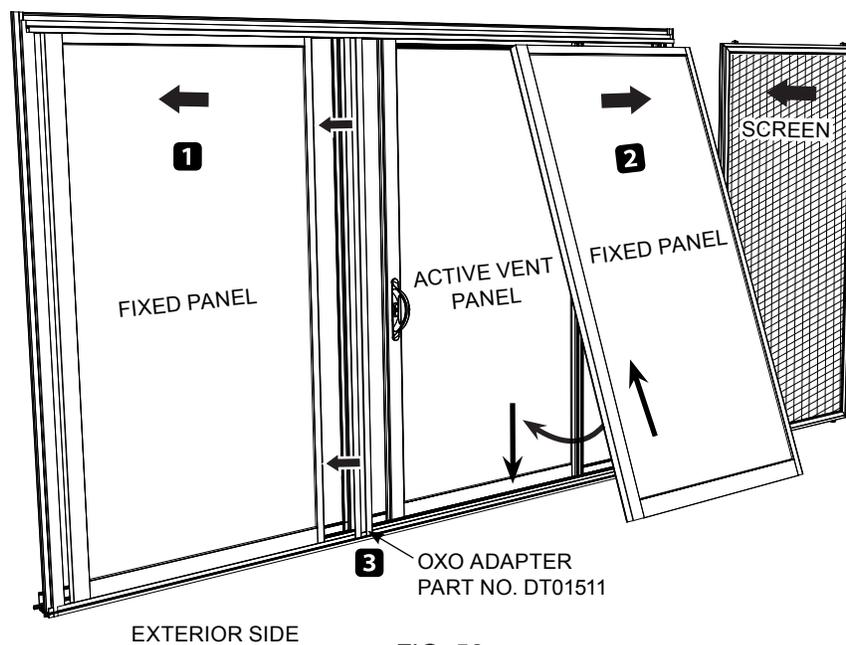

FIG. 50
3. Install the fixed panels on either side of the active vent. Slide the fixed panels to each end of the frame. Steps 1 and 2. (FIG. 50)
4. Place Part No. DT01511 OXO adapter on sill and slide tight to fixed panel. Step 3. (FIG. 50)